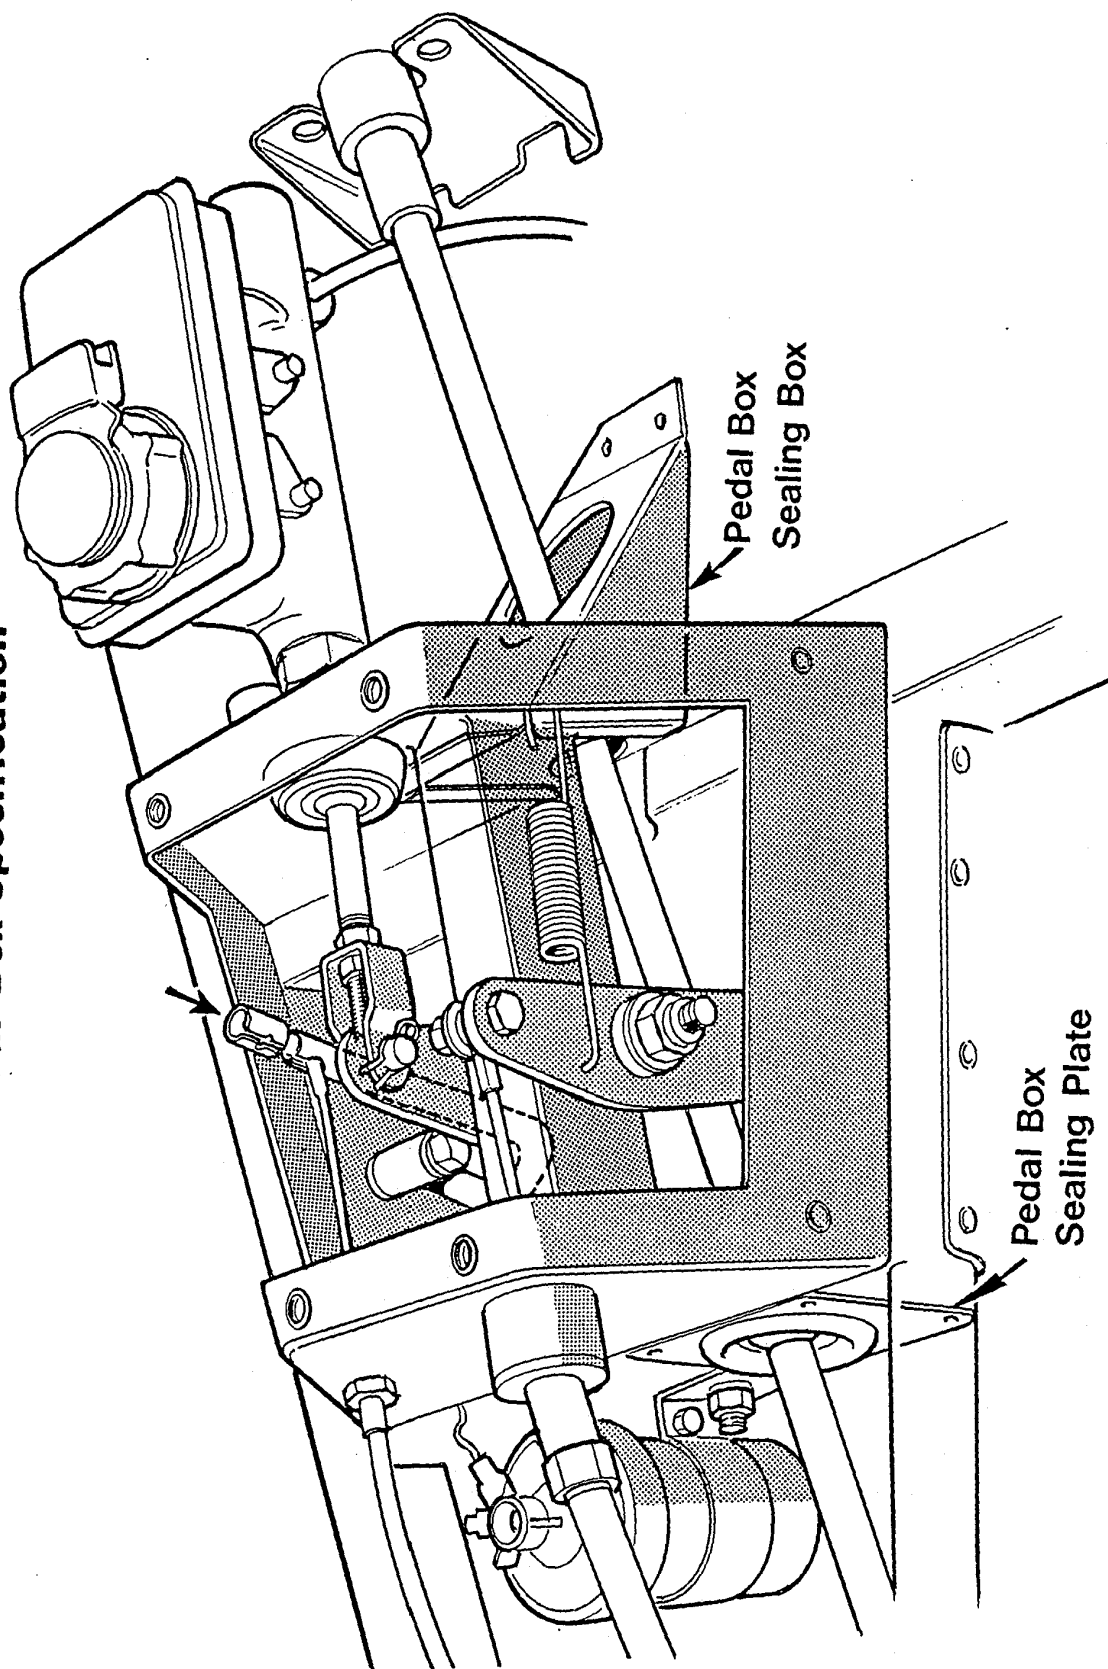

Fig. 6.5
5.1. These later vehicles are fitted with an enclosed pedal box assembly through which the steering column passes and since this box is sealed to prevent water ingress the steering column passes through two rubber grommets. It will be necessary to remove the lid covering this before the lower column can be fitted. (see Fig 6.5.)
5.3 Similarly, a folded aluminium box fits over the steering column at the back of the pedal box containing a second identical grommet which should also be smeared with rubber lube. Again do not secure at this stage (see Fig 6.5).